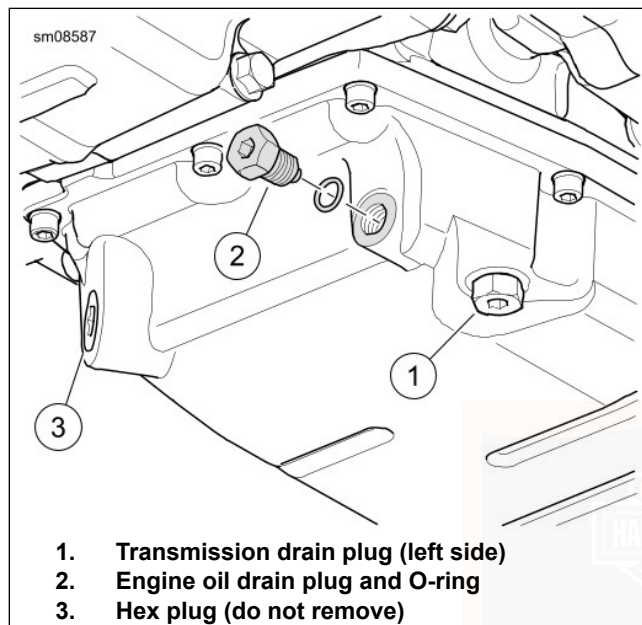

Figure 65. Oil Pan
3. See Figure 65. Remove the oil drain plug (2) and O-ring. Allow oil to drain completely.